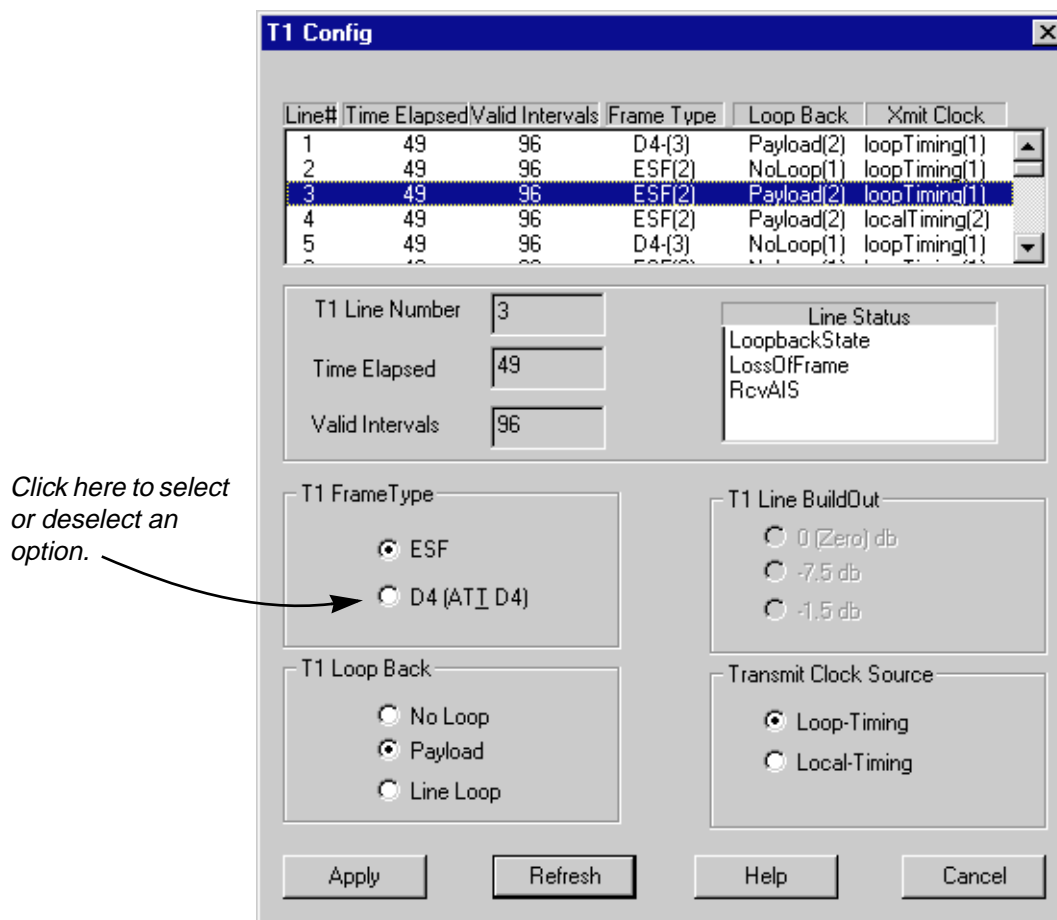

Figure 8-2. The T1 Config Window
2. Select **HSIM W87 Config (T1)**. The T1 Config window, Figure 8-2, will appear.